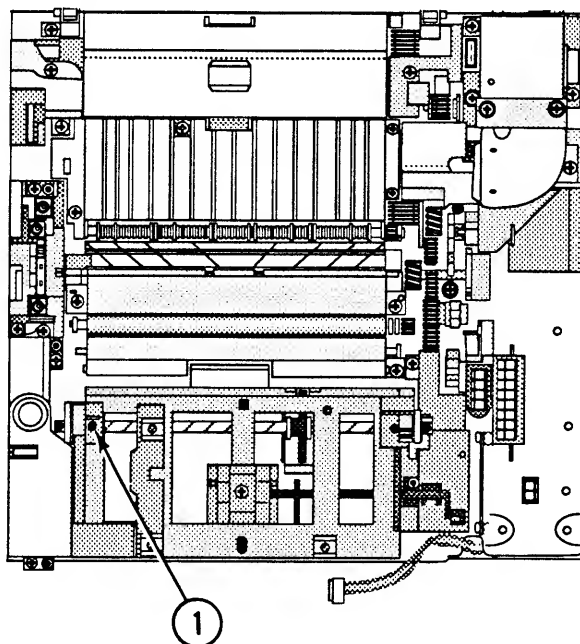

FIGURE 57
2. Remove the Phillips screw (Figure 57, #1) that secures the left hook guide to the main body block.